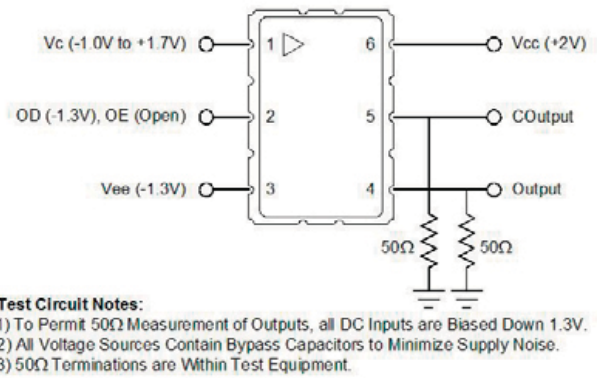

Figure 3. LVPECL Test Circuit
- 2] Parameters are tested with production test circuit below as shown in Figure 3.